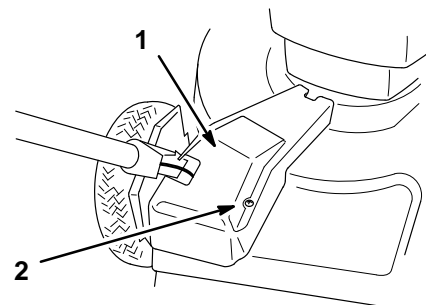

Figure 25
1. With the engine turned off, remove the bolt securing the belt cover (Fig. 25) to the mower housing.